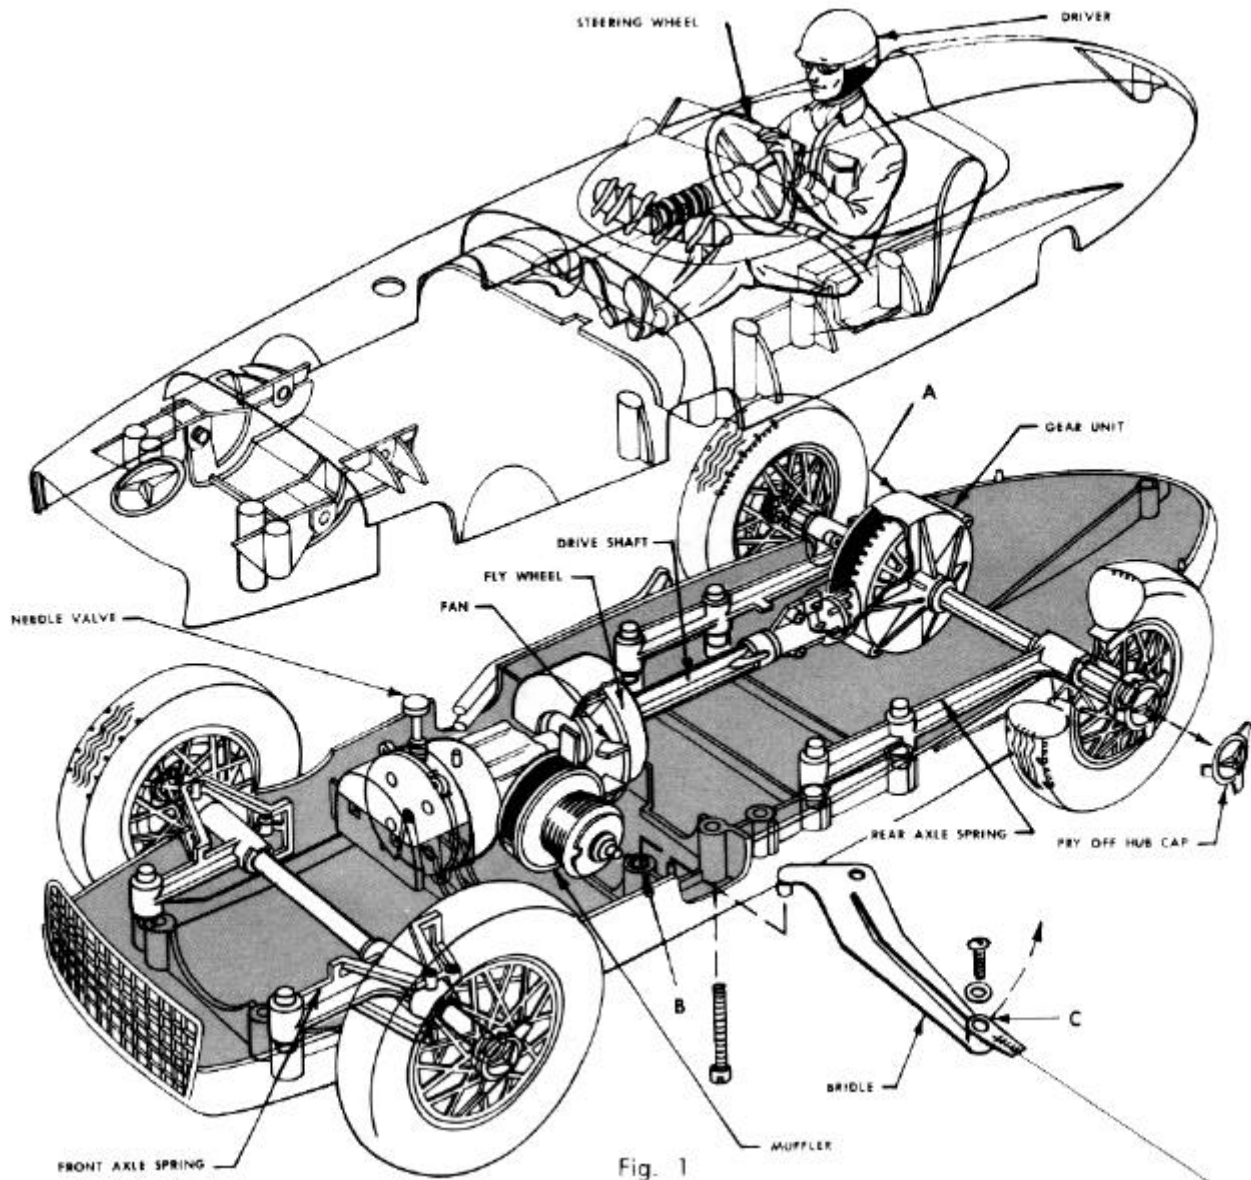
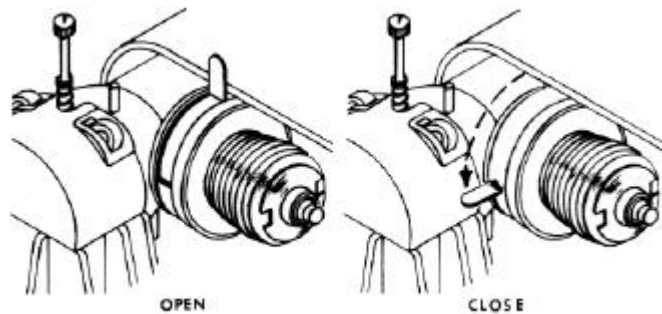

Fig. 1
Fig. 3
This racer is powered by a Thimble Drome .049 engine mounted under the hood. To open the hood, pull the steering wheel to release the lock and raise the hood which hinges at the front (See Fig. 1).
A Flywheel (See Fig. 1) is mounted on the engine shaft to smooth running operation and to help accelerate the car after launching without killing the engine. There is also a centrifugal blower mounted on the shaft which forces air from around the engine into the blower chamber and out through the side of the car (See Fig. 1). This keeps the engine from overheating while adjusting the needle valve before launching the car.
From the flywheel a driveshaft (See Fig. 1) of especially tough plastic transmits power to the gear unit on the rear axle. The gear unit (See Fig. 1) is composed of bevel gears in a closed plastic gear case. The gear ratio is 3.07:1 which affords plenty of power for acceleration without slowing the engine to the stalling point. It also provides for all the speed a car of this size and weight can attain from the engine.
It will be noted that the axles are fastened to very tough plastic springs (See Fig. 1). This allows the car to hug the surface fairly well at high speeds instead of bouncing the whole car on every rough spot. The misalignment between the gear case and engine due to the springing action is taken up by universal joints at either end of the drive shaft.
A muffler is provided (See Fig. 1) for roaring action or quiet neighborhood operation. Exhaust noise is controlled as shown in the sketch at Fig. 3.
If a driver is desired, the driver parts found in the poly bag can be assembled as illustrated in Fig. 1. Use styrene cement, apply to all edges that fit together. Press the two parts together and hold firmly for a few minutes before adding the next part. Cement the driver's left arm in place after he has been positioned in the car. To install the driver, remove the top rear half of the body by loosening the three rear screws. Remove the seat, cement the driver into the seat, reposition the seat and screw the body back together. Styrene cement and paints for coloring the driver may be obtained from your local hobby shop.
2. The bridle is installed by opening the hood. The slender boss of the bridle is inserted into the socket (See B Fig. 1) on the left side of the body. Press down firmly and rotate the bridle into the slot between the body top and body bottom. The bridle is secured into position by means of the long self-tapping screw provided. This screw inserts through the body bottom, passes through the small hole in the bridle and threads into the body top.
3. Attach the tether to the boss at the end of the bridle (See C Fig. 1) with the tether link around the boss and retain with the short screw and washer provided. The car is now ready to be run on the tether about a center post. The Thimble Drome tether is available (Cat. #937-75c) and allows the car to run in a 15 foot diameter circle. If you prefer the tether is available with other accessories in kit form (Cat. #960-\$1.98) which includes battery connector, fuel, etc. from your local hobby shop.
4. Oil all axle bearings and wheel bearings. Oil universal joints. Put a drop of oil where rotating parts enter gear case. Remove screw (See A Fig. 1) and squirt some oil in the gear case, approximately a teaspoonful. This may be done with most any oil can.
2. Open the muffer (See Fig. 3).